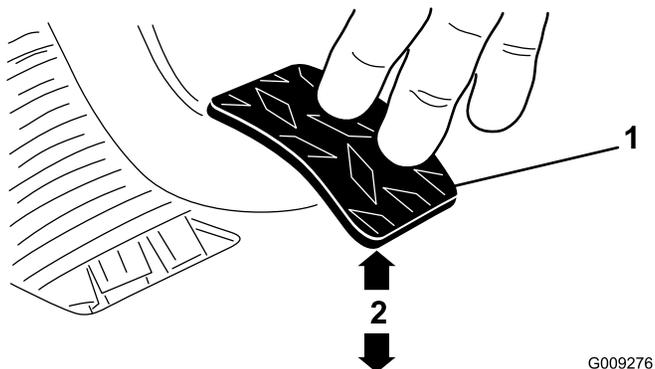

Figure 70
3. Adjust the jam nuts or ball joint until the back, rear edge of the clutch pedal is 9.5 ± 0.3 cm (3.75 ± 0.12 inch) from the top of the floor plate diamond pattern, when a 1.8 kg (4 lb) force is applied to the pedal (Figure 70).